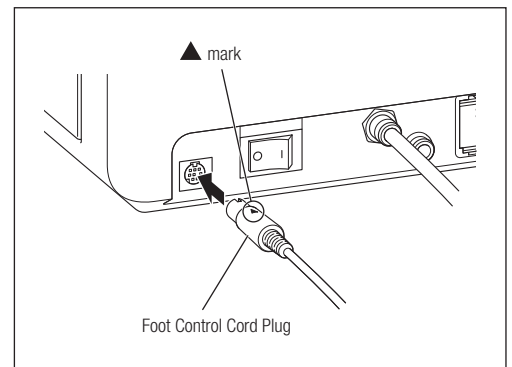

Fig. 5
- 2) Insert the Foot Control Plug into the Foot Control Cord Connector Socket with the ▲ mark facing upwards (Fig. 5).